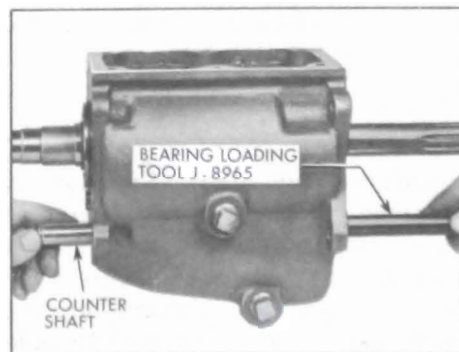

Figure 4-20—Installing Loading Tool J-8965
6. Drive countershaft rearward with a brass drift until shaft is just free in front shaft bore of case. Using Bearing Loading Tool J-8965, push out countershaft, making sure loading tool is tight behind countershaft at all times. Allow countergear to drop to bottom of housing with loading tool in place to keep bearing rollers and thrust washers intact. See Figure 4-20.